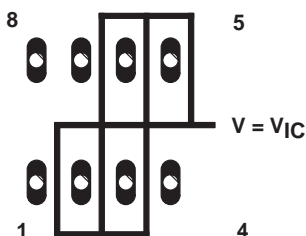
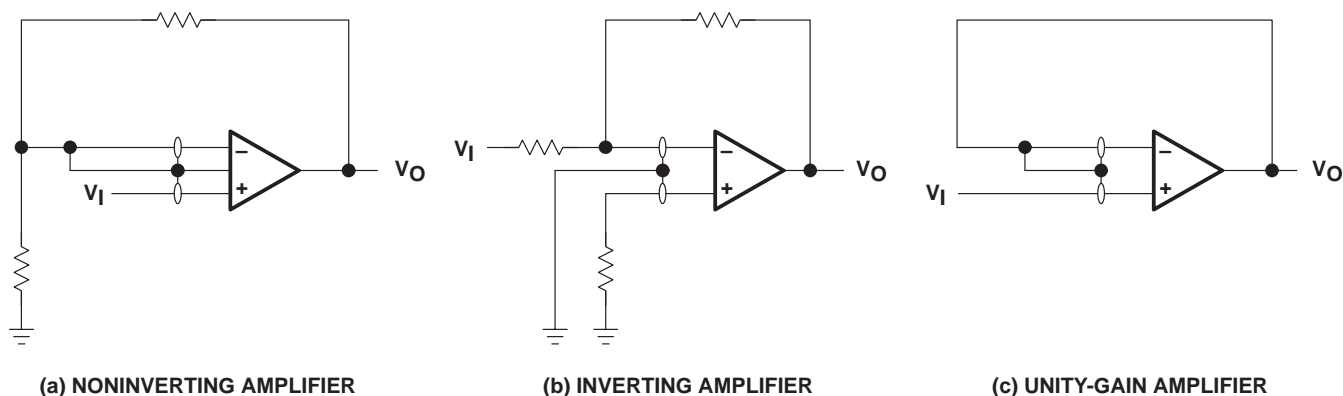

Figure 37. Isolation Metal Around Device Inputs (P package)
Figure 41. Guard-Ring Schemes
- Isolate the device from other potential leakage sources. Use a grounded shield around and between the device inputs (see Figure 37). Leakages that would otherwise flow to the inputs are shunted away.
It is good practice to include guard rings around inputs (similar to those of Figure 37 in the Parameter Measurement Information section). These guards should be driven from a low-impedance source at the same voltage level as the common-mode input (see Figure 41).